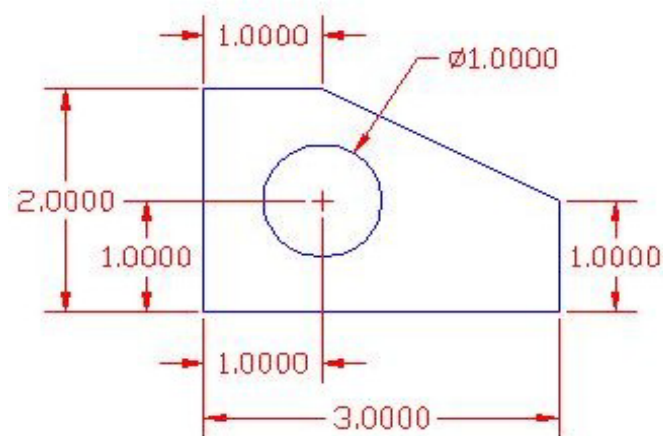

Fig 4.4
- Draw the diagram mention in Fig. 4.4 in AutoCAD using appropriate commands.
- Dimension the entire drawing according to Fig. 4.4.